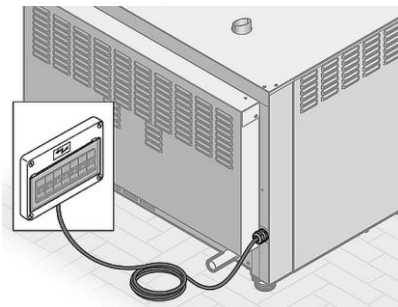

Fig. 12
- We recommend making the connection through a control cabinet, with an upstream and easily accessible switch, and integrated into the system pursuant to the regulations in force in the country of installation (Fig. 12). Alternatively, a suitable plug can be installed.